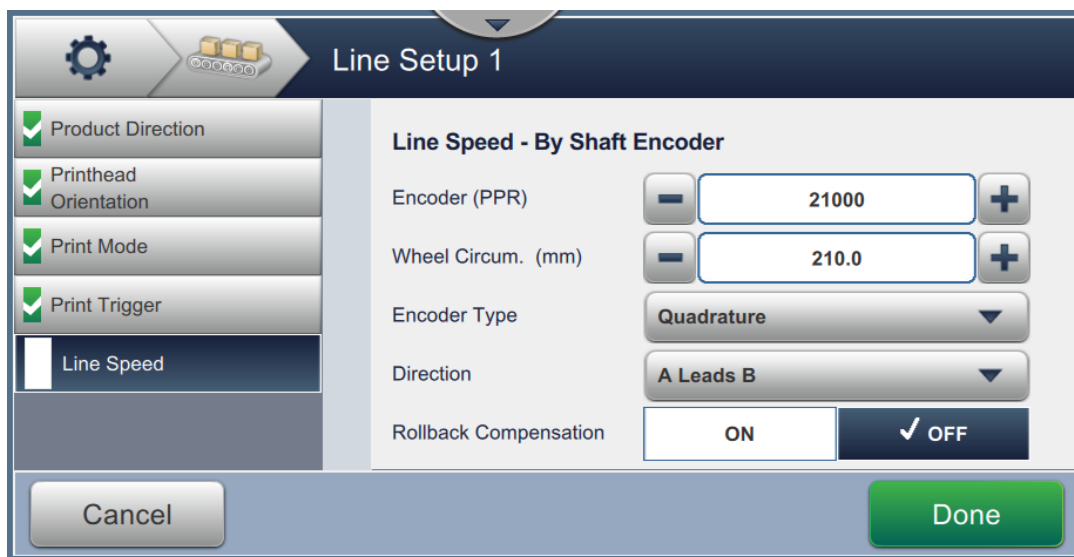

Figure 6-36: Line Speed - Measured by Shaft Encoder
2. Change the required parameters on the Setting screen as shown in Figure 6-36.